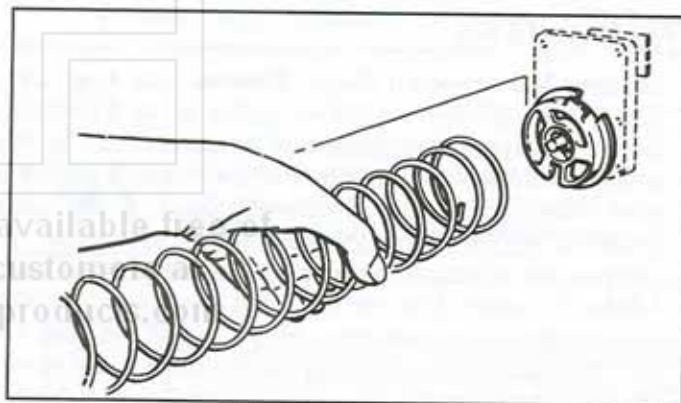
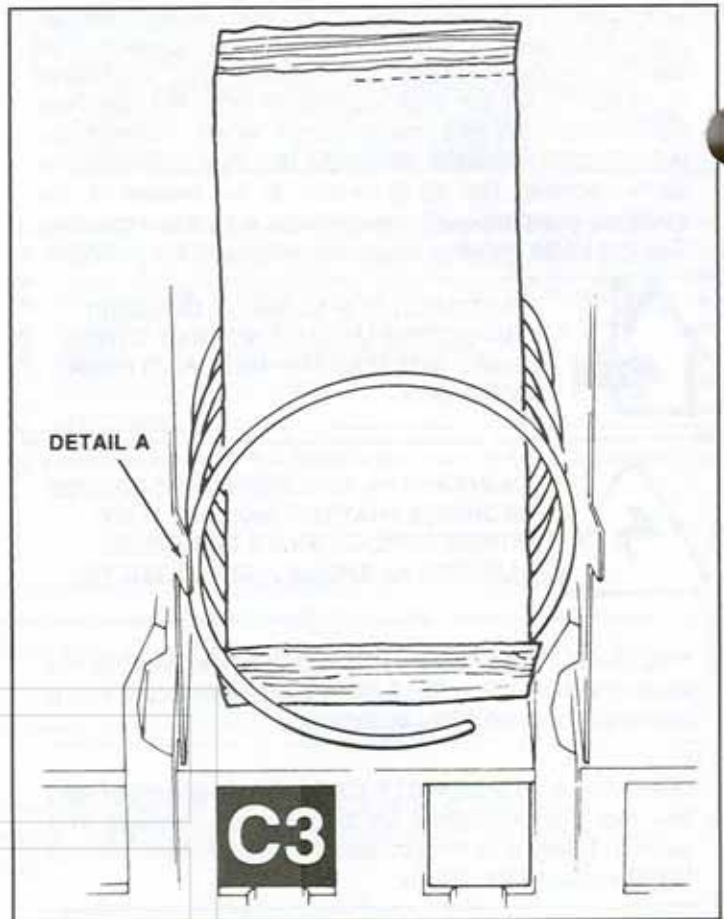

Figure 2. Removing and installing spiral.
Figure 4. Placement of product on main product candy shelves and front end position of spiral.
spiral lock and turn the spiral counterclockwise to lock it in place. Be sure the front end of the spiral is positioned properly (with the front end of the spiral pointing downward on the left side) (see Figure 2). The spiral lock is attached between the spiral retainer tabs. Give a light forward pull on front of the spiral to check if it is locked in place.
6. **Loading Main Product Candy Shelves.** The 6-selection (candy type) shelves are loaded similar to the 3-selection shelves, except that the bottom of the product sits on the shelf in front of the spiral wire (see Figure 4) that rests on the shelf. These products must also fit properly in the spiral space; do not force product into spiral. These spirals are removed and installed the same as the large spiral (see Figure 2), except that the front end position is different (approximately 5 o'clock) (see Figure 4) and the front left side of the spiral must be behind the small tab located on the left side of the product space side wall. (see Figure 4, Detail A).